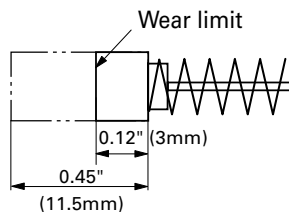

Fig. 18
4. Inspecting the carbon brushes (Fig. 18)